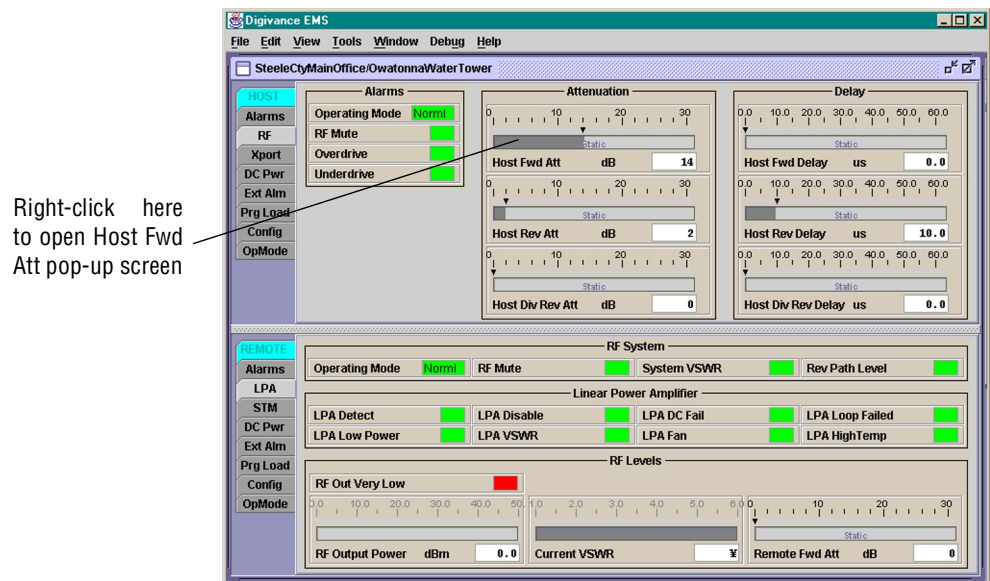

Figure 4-8. HOST RF Display
1. Click on the HOST **RF** tab. The HOST **RF** display will open within the EMS main window as shown in Figure 4-8.